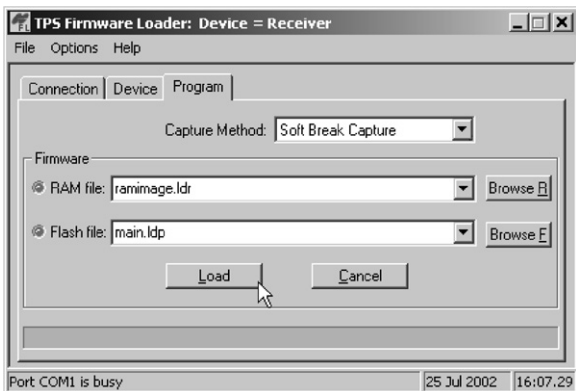

Figure 4-21. Program Tab Settings
- Click the **Program** tab and set the Capture Method to Soft Break Capture (recommended) (Figure 4-21).
- Browse for and select the Receiver board's RAM file (ramimage.ldr) and Flash file (main.ldp) (Figure 4-21).